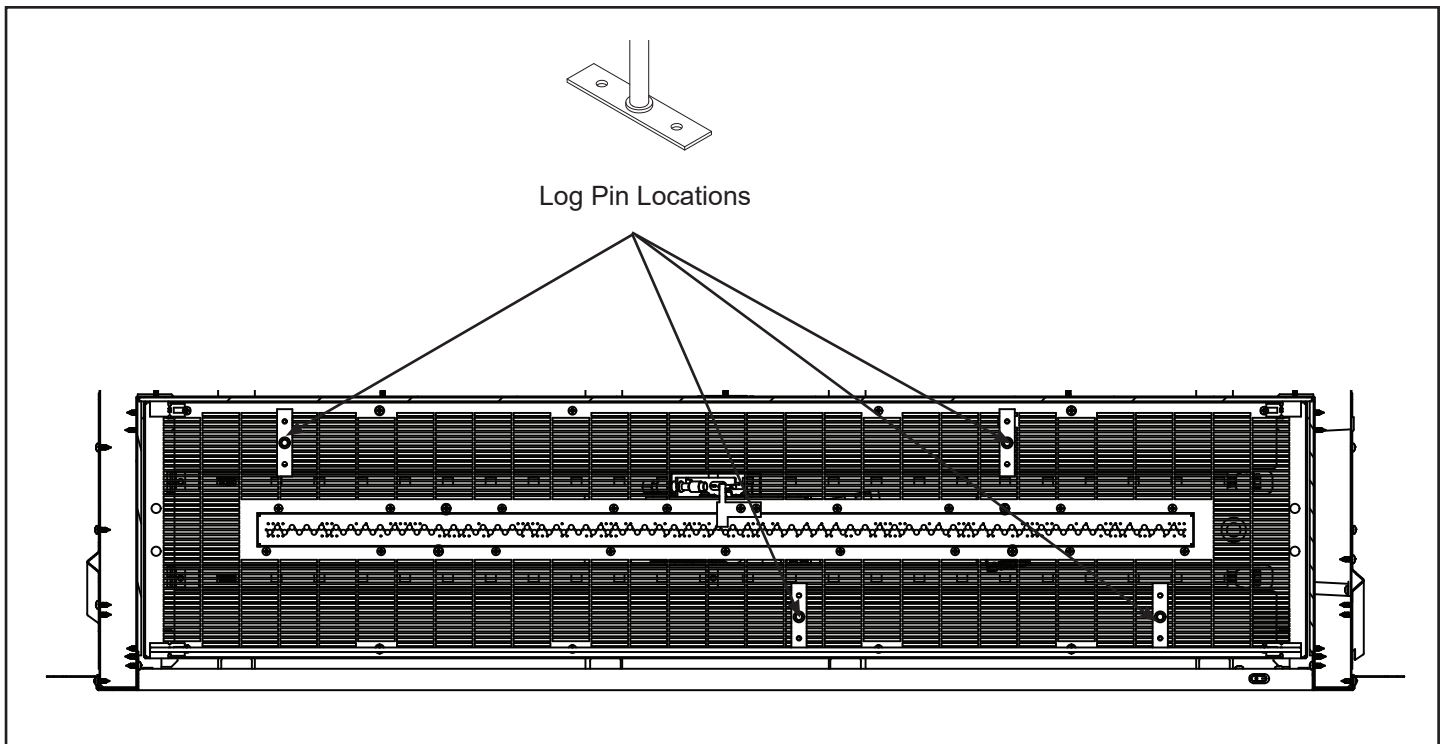

Figure 7.5– Log Pin Placement for AVFL42N(P)IP-BU, AVFL42N(P)IP-RB, AVFL48N(P)IP, AVFLST48N(P)IP, ODLANAIG-48 AND ODLANAIGST-48
**NOTE:** Prior to installing the log set, you must first install the pin brackets on the burner. The air deflection glass and glass media should only be installed after the pin brackets are in place. The air deflection glass should be installed prior to placing glass media on the burner. The logs must then be placed in the unit after the glass media and air deflection glass. If the optional logs are added to the appliance after installation of deflective glass and glass media, move the glass media away from the pin location holes on the firebox bottom assembly as per Figure 7.5 or 7.7.
1. Mount the four log support pin brackets using mounting holes and screws provided in locations indicated in Figure 7.5 for the front and rear log. Only one hole of the pin bracket will be used to secure the pin to the outside of the burner assembly base. The other hole remains unused and rests on the mesh area. Next, arrange glass media evenly across the burner again.